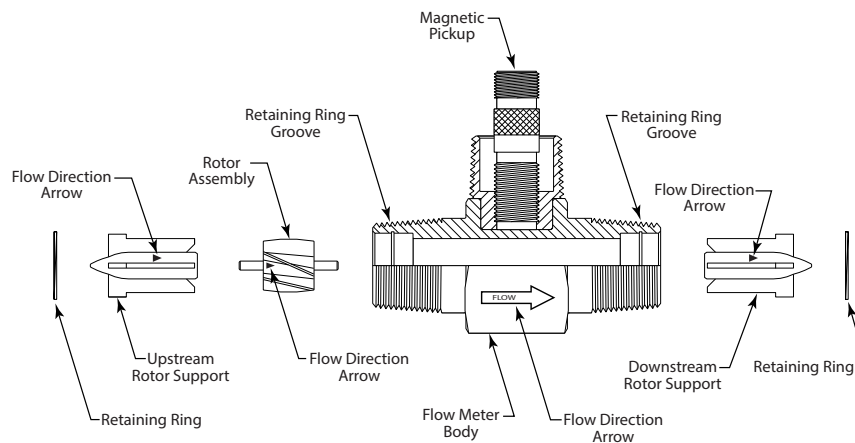
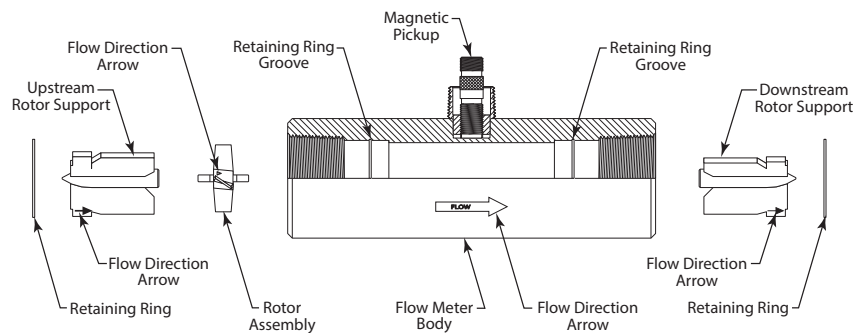
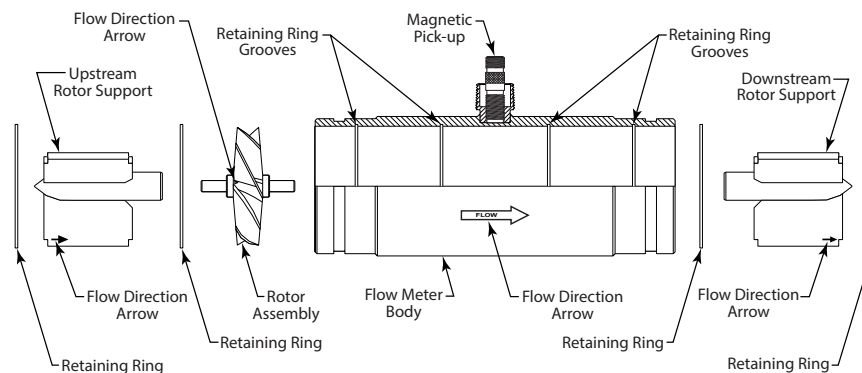

Figure 7: Component positions for B110-375...B111-115 and B111-121
Figure 8: Component positions for B111-120 and B111-130
Figure 9: Component positions for B111-140 and B111-200
1. Refer to *Figure 7*, *Figure 8* and *Figure 9* for relative positions of repair kit components.
**NOTE:** 4 in. and larger meters have two retaining rings (one on either side of the rotor) that require removal before the rotor can be removed (see *Figure 9*).
Before reassembly, note that an arrow is cast or engraved on each component. The arrow indicates the primary flow direction. When reassembled, the arrowheads must point in the direction of the fluid flow. The arrows must also be oriented in the up position on both rotor supports. The magnetic pickup side of the body signifies the up position. Performance of repair kit calibration is in the up position. Reinstallation of the repair kit in the up position provides continuation of accurate measurements. Figure 7, Figure 8, and Figure 9 show the proper alignment and orientation of the repair kits.
**NOTE:** 4 in. and larger meters have a retaining ring at both ends of the rotor (see Figure 9).